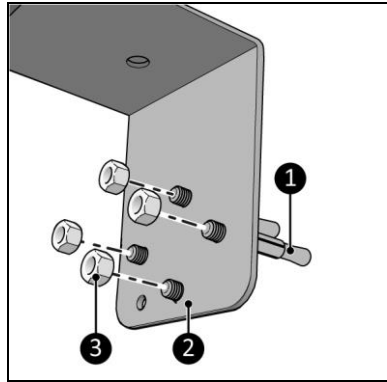
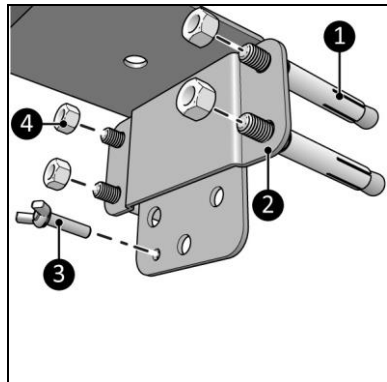

Figure 7
Figure 8
- Fixed to the wall (Figure 7).
- Removable from the wall (Figure 8).
1. Attach the suspension bracket (Figure 7, pos. 2) level on the wall using the four anchor bolts (Figure 7, pos. 1) and the four nuts (Figure 7, pos. 3).
1. Attach the wall bracket (Figure 8, pos. 2) level on the wall using the four anchor bolts (Figure 8, pos. 1) and the four nuts (Figure 8, pos. 3).
2. Place the suspension bracket (Figure 7, pos. 2) behind the wall bracket (Figure 8, pos. 2).
3. Fix the wing bolt (Figure 8, pos. 4) in the suspension bracket (Figure 7, pos. 2).